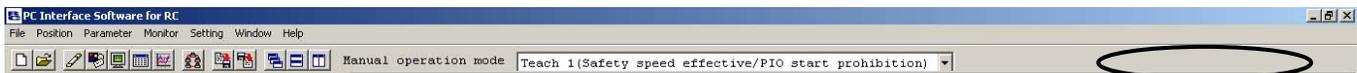
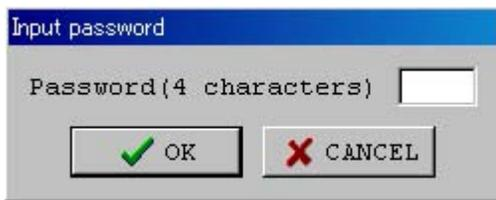

Fig. 16.1 Menu Bar
Fig. 16.2 Input Password Window
- (1) Right click a blank part of the toolbar (Appendix Fig. 16.1) while pressing the **Ctrl** key, then input password window as shown in Fig. 16.2 is displayed.